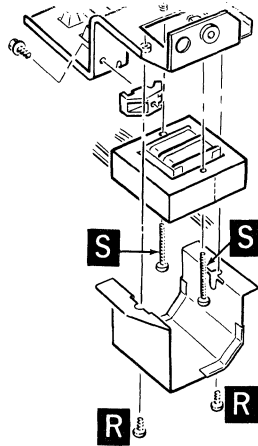

Figure 6.3
- Refer to Figure 6.3 and remove the two 6-20 x .312" screws at **R** that secure the cover to the transformer; then remove the cover.
- Refer to Figure 6.3 and remove the two 8-18 x 1.25" transformer screws at **S**; remove the transformer.